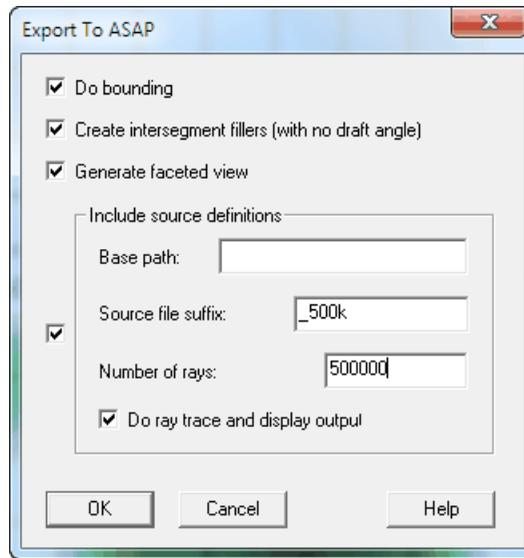

Figure 2.2 Exporting to ASAP
- To export the reflector design to an ASAP input file, click **File, Export, To ASAP** and complete the dialog box as shown in Figure 2.2.